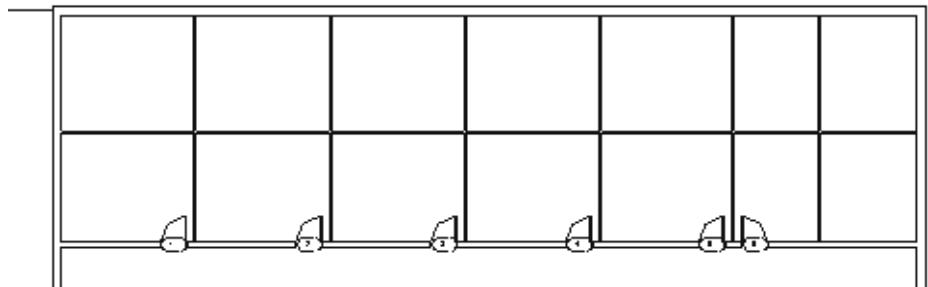

Figure 2-75
- Click  (Modify) and select the new horizontal wall that was created from the exterior wall. Change the wall to **Basic Wall: Interior - 3 1/8" Partition (1-hr)**. The layout of the new walls should display as shown in Figure 2-75.